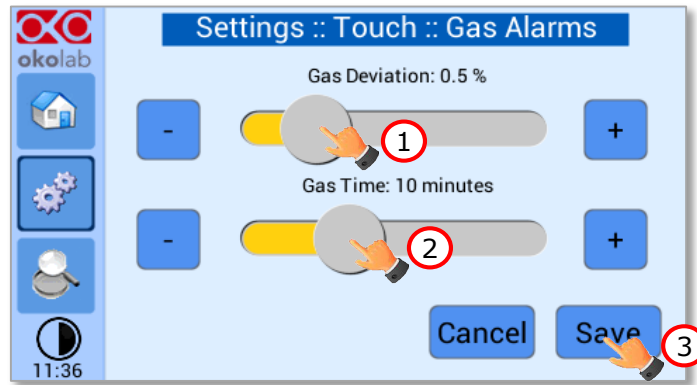

Figure 65. How to set the Deviation and Time Alarm.
2. Insert the Gas Deviation by scrolling the bar (1 in Figure 65) or pressing the +/- icons.
3. Insert the Gas Time by scrolling the bar (2 in Figure 65) or pressing the +/- icons.
4. Press *Save* (3 in Figure 65) to confirm.
Figure 65. In this example the following settings are displayed (valid only after the system has reached its stationary state): if the *Gas Deviation* from Setpoint is 0.5% or greater (i.e. if Setpoint gas is 5.0% and the composition reaches a value equal or less than 4.5% or equal or more than 5.5%) for a period of time equal or longer than 10 minutes (*Gas Time* set in this example) then the system triggers an Alarm.